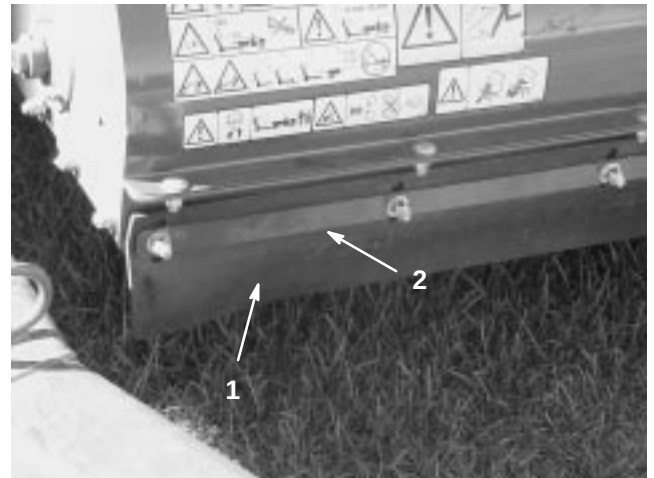

Figure 30
- Loosen the nuts securing the metal strap and the front flap to the brush housing (Fig. 30).